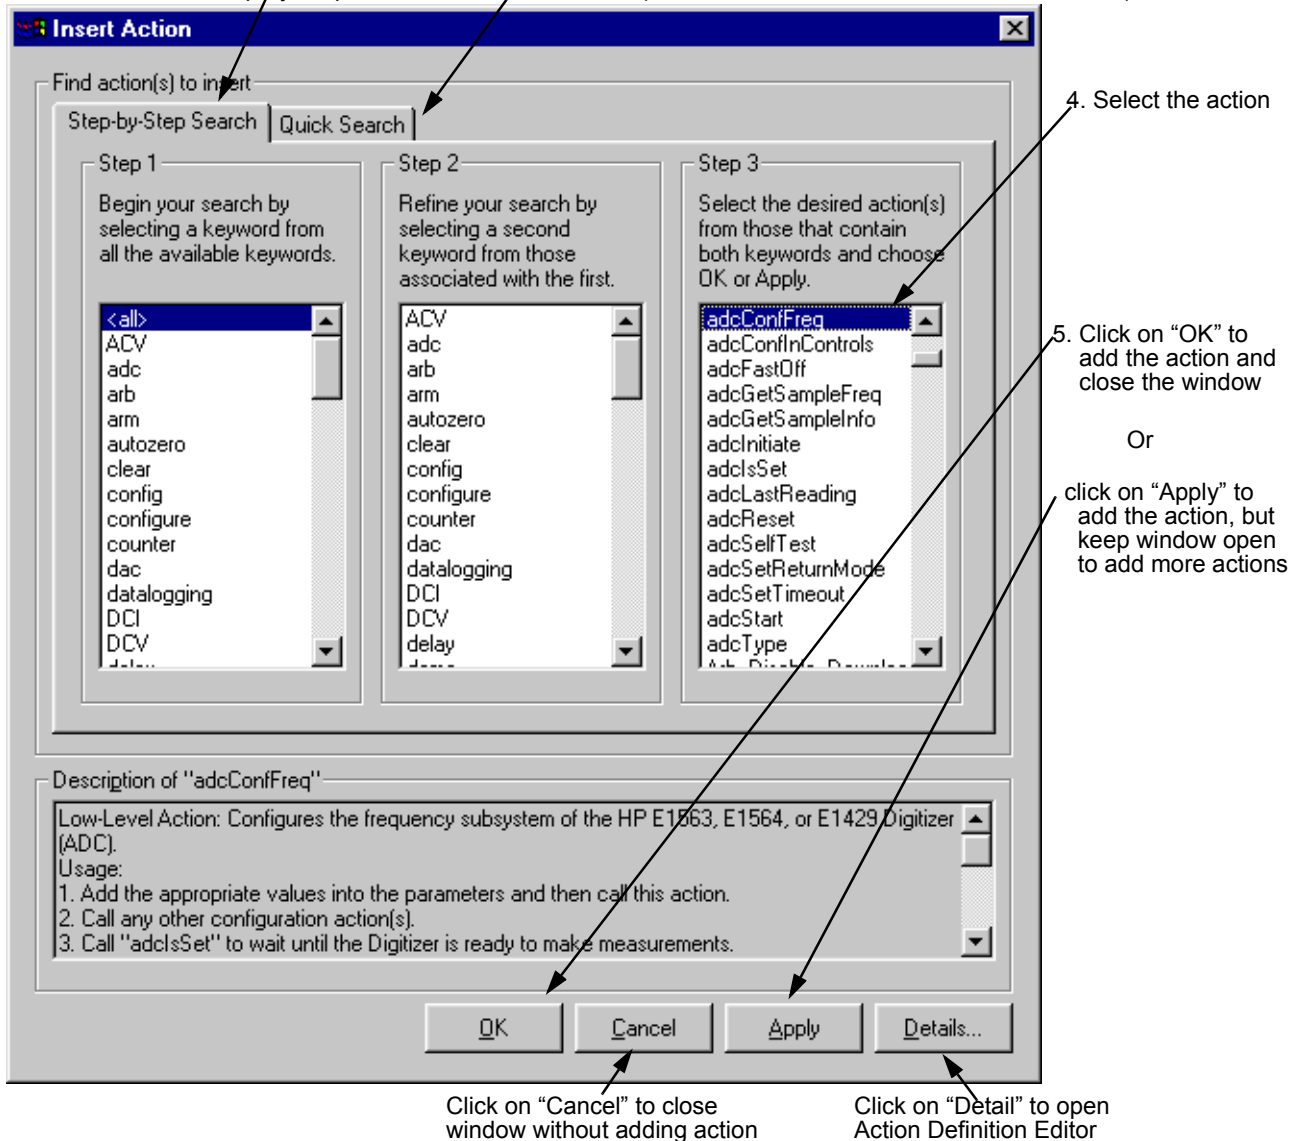

Figure 2-3. Adding an Action
4. Add an action to the test, as shown in Figure 2-3 and Figure 2-4.
There are two different actions that can be added, a regular action and a switching action. Figure 2-3 shows how to add a regular action and Figure 2-4 shows how to add a switching action.